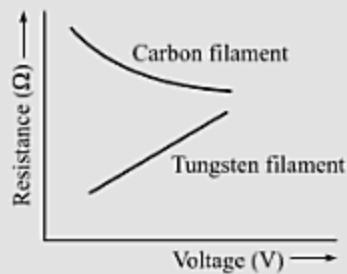

Fig. 2.56 Variation of resistance with applied voltage.
**Graphs** Plot the graphs of resistance versus applied voltage for both the lamps, preferably on the same graph paper (as in Fig. 2.56).